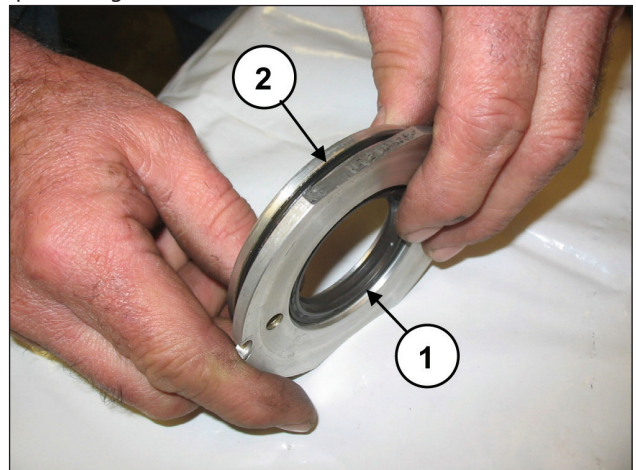

Fig. 130
Replace the oil seal (pos. ①, Fig. 130) and the external O-ring (pos. ②, Fig. 130).